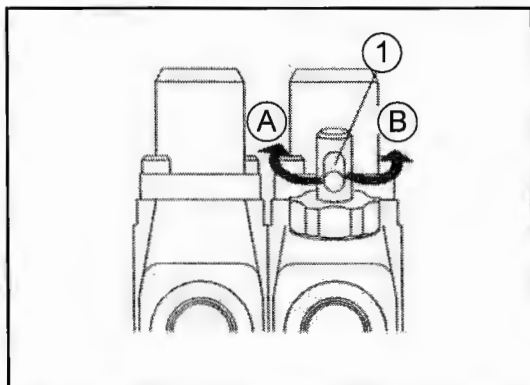

Fig. 26-1 - Single Acting/Double Acting Switching
Single-Action - Turn knob (1) to position (A) until it stops. The port (1) is now operating in single action. (See Fig. 26-1).
Double-Action - Turn knob (1) to position (B) until it stops. (See Fig. 26-1).